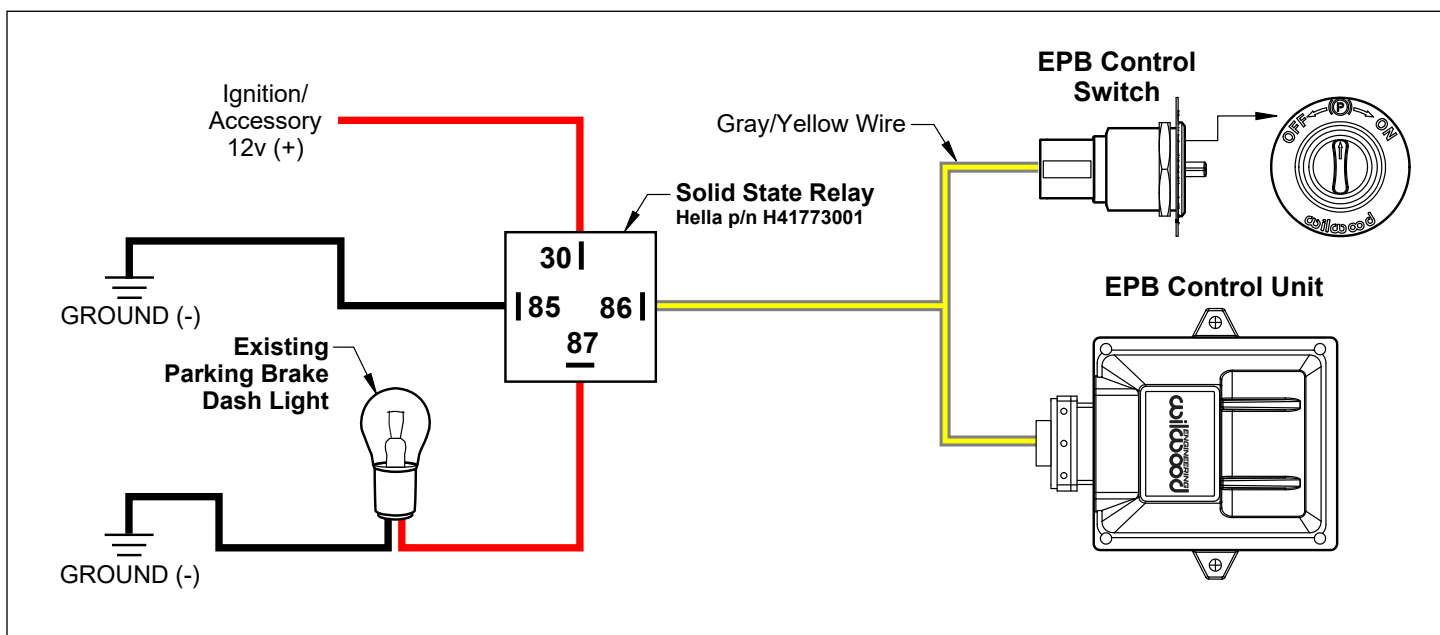

Figure 5. EPB/Parking Brake Dash Light Wiring Diagram
- Wire in the solid state relay and dash light as shown in Figure 5, page 7.